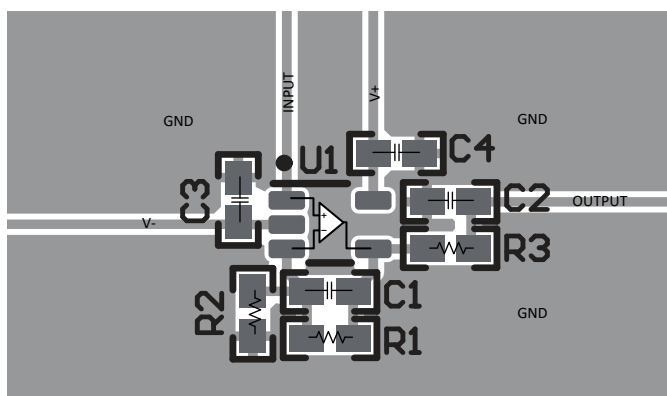

Figure 8-4. Operational Amplifier Board Layout for Non-inverting Configuration - SC70 (DCK) Package
- Place the external components as close to the device as possible. As shown in Figure 8-4, keeping RF and RG close to the inverting input minimizes parasitic capacitance.